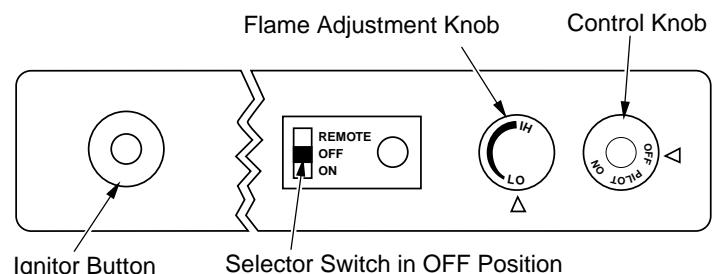

Figure 32 - Control Knob and Ignitor Button Location
4. Press in and turn control knob clockwise  to the OFF position (see Figure 32).
5. Wait five (5) minutes to clear out any gas. Then smell for gas, including near the floor. If you smell gas, **STOP!** Follow "B" in the safety information in column 1. If you don't smell gas, go to the next step.
6. Press in and turn control knob counterclockwise  to the PILOT position. Press in control knob for five (5) seconds (see Figure 32).